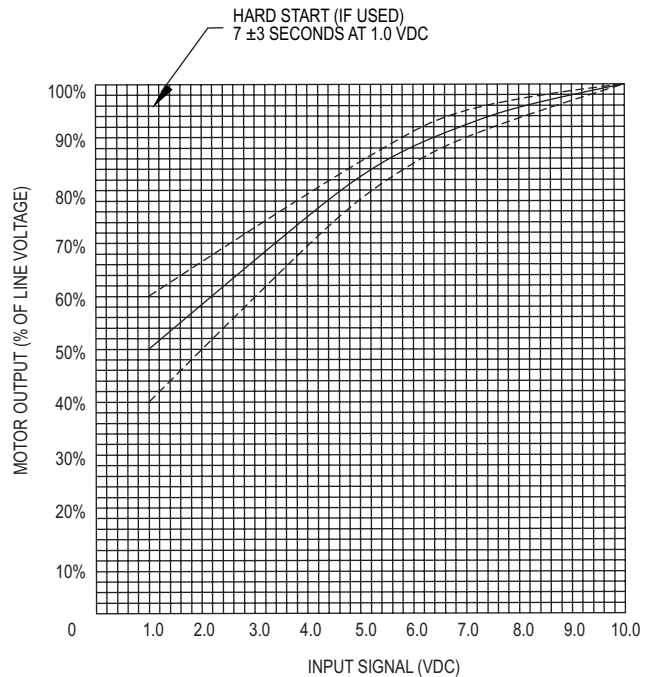

Figure 2: Model FC-1000 input and output curve
Signal input between 1.0 and 10.0 VDC	Motor voltage varies directly with signal input from minimum speed to 100% of line voltage. See figure 2 for ramp control of output vs signal input.
Hard start means that the control will apply 90-100% of the line voltage to the motor for a period of 7 (±3) seconds. After the specified time (7 seconds) for the hard start feature has elapsed, the control output will revert to a level relative to the input signal (see Figure 2). If the input signal remains at 1.0 VDC the control output to the motor will remain at minimum speed. If the input signal is less than 1.0 VDC, the control output will be zero (0). A built in time delay of 10 seconds will occur between each hard start. If the Model FC-1000 has an input signal of 1.0 VDC or greater within this 10 second time period, the motor will restart but it will not hard start.